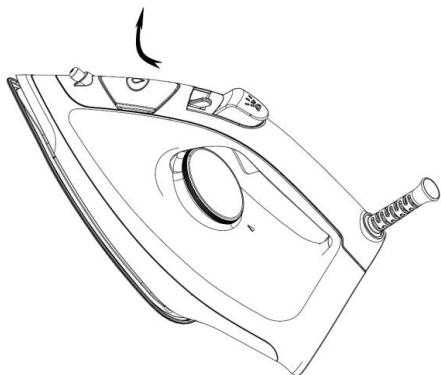
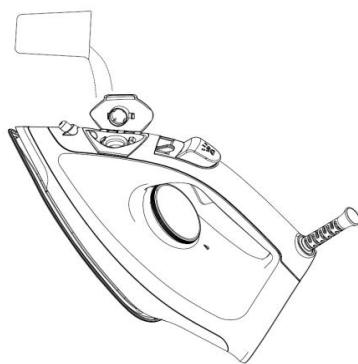

Fig.1
Fig.2
2. Open the water inlet cover (see Fig.1) and tilt the iron for 30 °. Pour an appropriate amount of water into the water tank by a measuring cup (see Fig.2). It is best to use pure water or distilled water with less calcium particles, and ensure that the water does not exceed the maximum water level line marked on the water tank. Press the water inlet cover to make it close. A sound of "Click" can be heard if the water inlet cover is closed well in position.